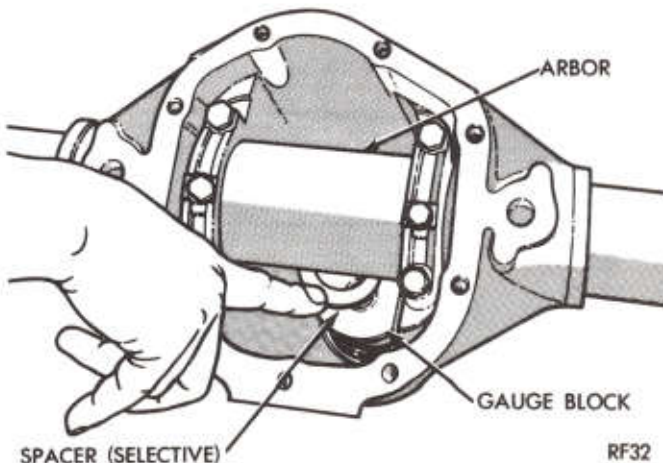
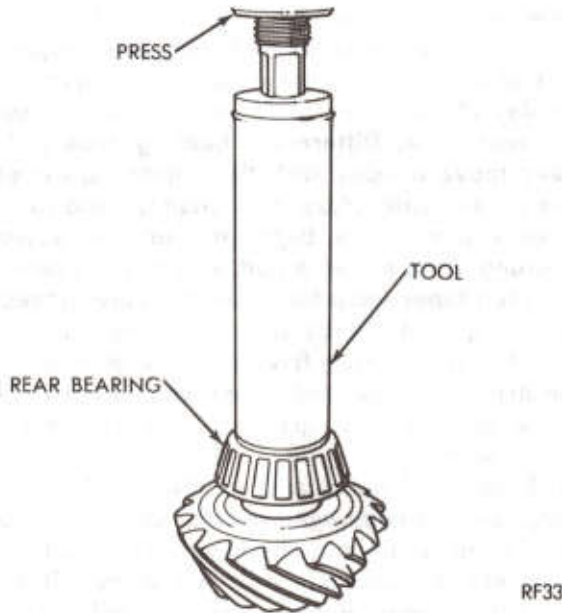

Fig. 25—Measuring Housing for Pinion Shim Thickness
Fig. 26—Installing Drive Pinion Rear Bearing Cone
(16) Select rear pinion bearing mounting shim which will fit between crossbore arbor and gauge block (Fig. 25). This fit must be snug but not too tight (similar to the pull of a feeler gauge). Shims are available in .001 inch increments from .020 inch to .038 inch.
(17) Read the markings on the end of the pinion head (-0, -1, -2, +1, +2, etc.). When marking is - (minus), add that amount to the thickness of shims selected in step (16). When the marking is + (plus), subtract that amount. Treat other pinion markings in a similar manner.
(18) Remove the tool arbor and tool from axle housing.
(19) Position shim selected in step (16) on pinion followed by rear pinion bearing cone (make certain that pinion head contact surface, bearing cone and shim are clean and free from foreign particles). Using Tool C-4040 for 8-3/8 inch axles or Tool C-3095-A for 9-1/4 inch axles, press bearing on pinion stem. An arbor press may be used in conjunction with tool (Fig. 26).
(20) Lubricate front and rear pinion bearing cones with rear axle lubricant.
(21) Insert drive pinion and bearing assembly through axle housing. Install new collapsible spacer